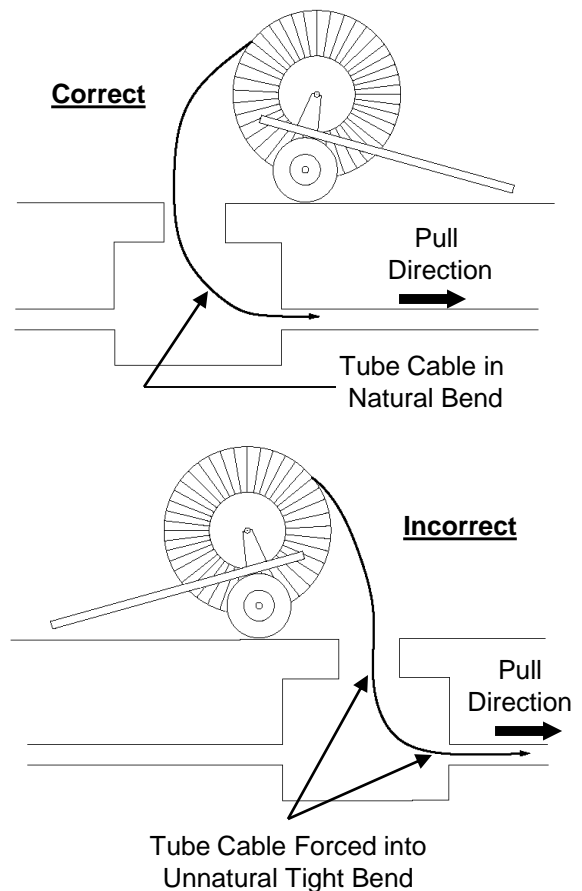

Figure 17
16.1.3 Position tube cable reel so that it is on the same side of the maintenance hole as the direction of the pull with cable payoff from the top. **See Fig. 17.**